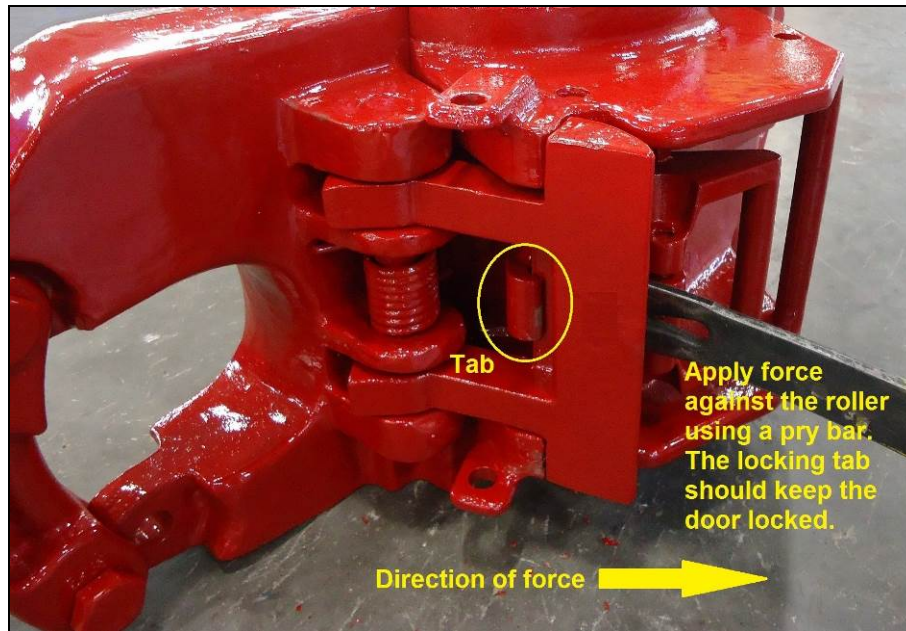

Figure 3: Pry Test Instruction SLX
- Try to open the latch by prying the latch between body and latch with a steel bar or screw driver – the latch lock prevents the latch from being opened (figures 3 and 4). If the elevator opens during pry test, pull from operation for repair